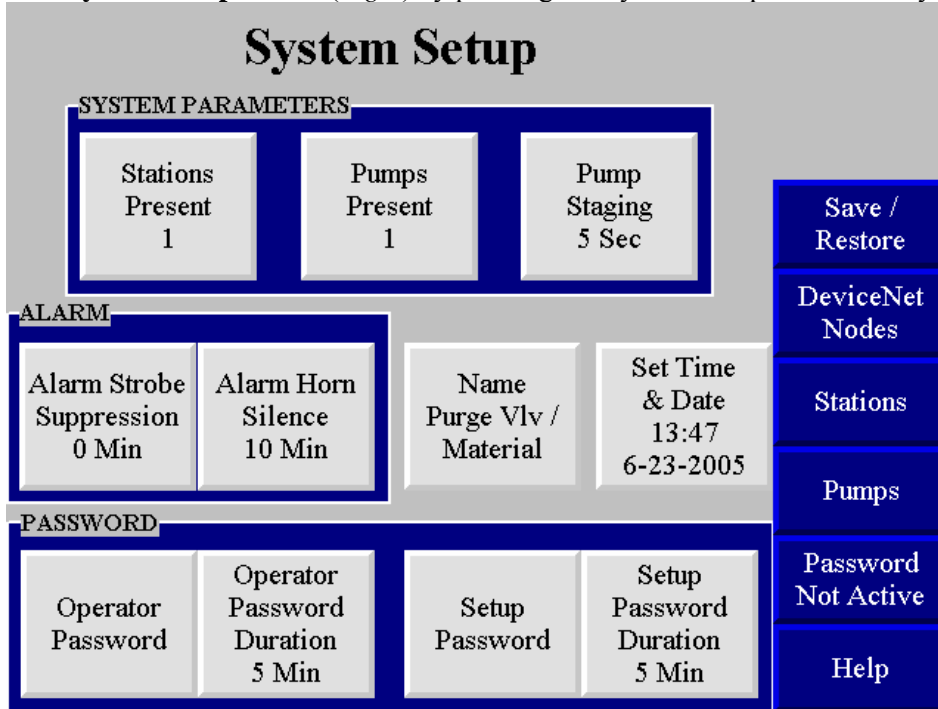

Fig 3
9. Go to the **System Setup** Screen (Fig 3) by pressing the System Setup button on any screen.